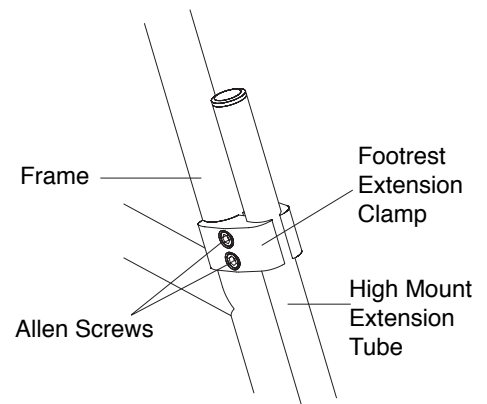

Figure 9
- Loosen the two Allen Screws through the footrest extension clamp that secures the high mount extension tube to the frame. See Figure 9.